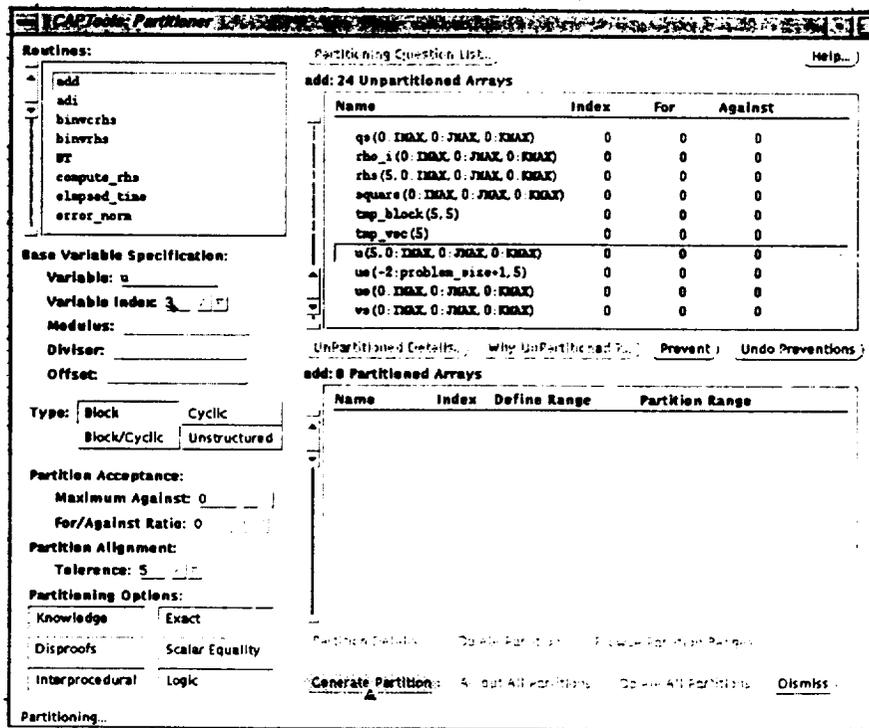
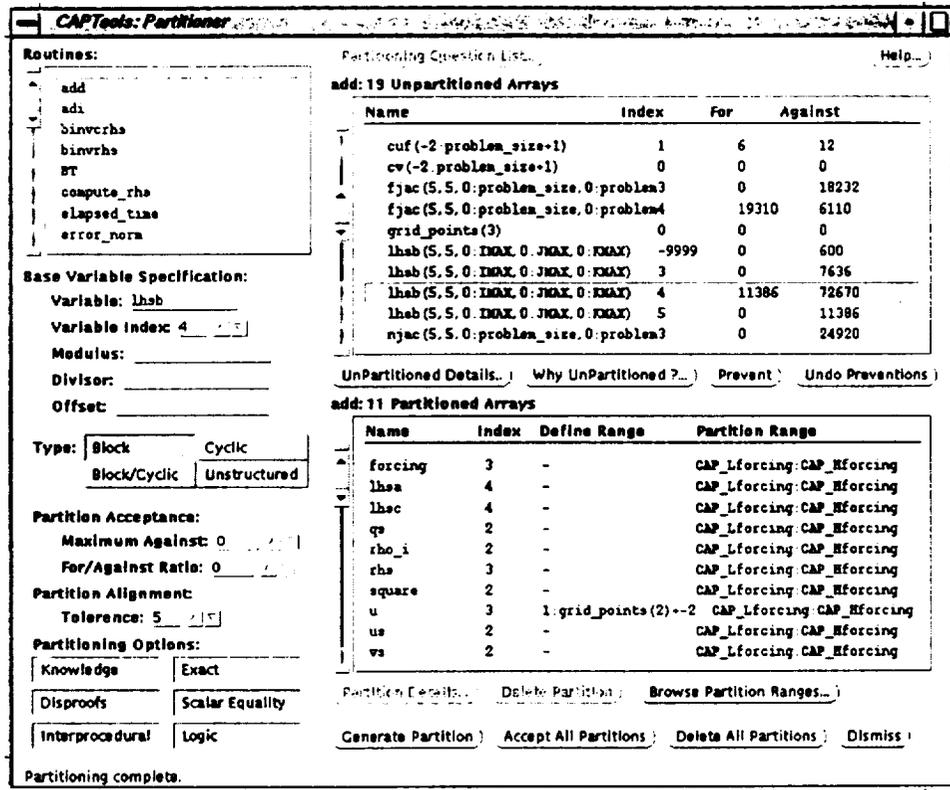

Figure T5-2: The Partitioner window for array partitioning: routine add, array u, index 3.
Figure T5-3: Apply array partitioning on the second array: lhab, index 4.
- 4. Partition data.** Launch the Partitioner from the CAPTools main window. Choose routine "add", array "u" and index "3" (see Figure T5-2) and click **Generate Partition**. This step creates a data distribution for array "u" on the 3rd index (the J dimension) and CAPTools also partitions automatically the relevant arrays throughout the program. Figure T5-3 shows the partitioning window after the process is finished. You will notice that array "1hsb" was left untouched. The next thing to do is to select this array, index 4 and perform another partitioning.